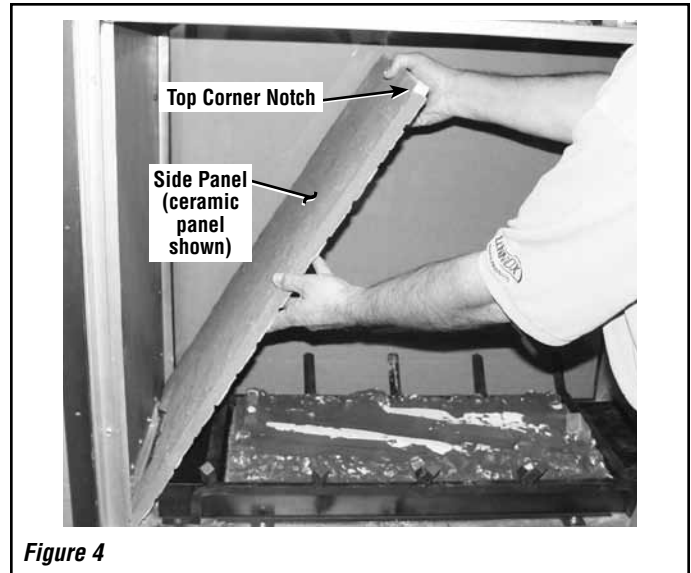

Figure 4
- Insert panel into firebox at an angle (as shown in **Figure 4**), **taking care not to scratch or damage the panel.**